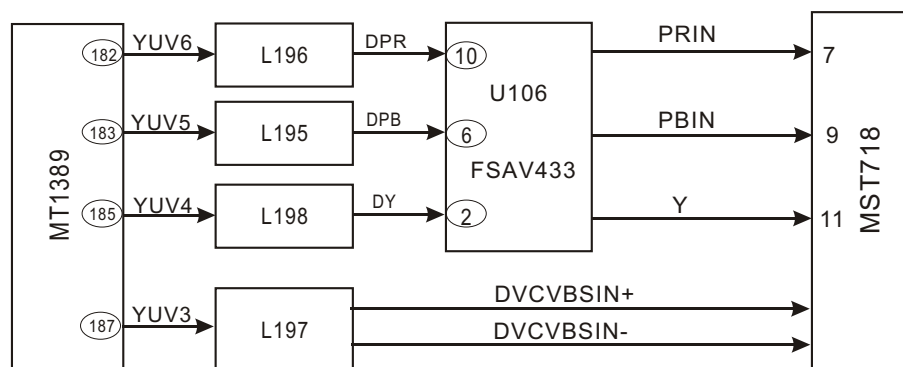

Figure 3.1.2.1 Video signal flow chart
1. Video signal flow chart diagram is shown as in the following figure 3.1.2.1 :